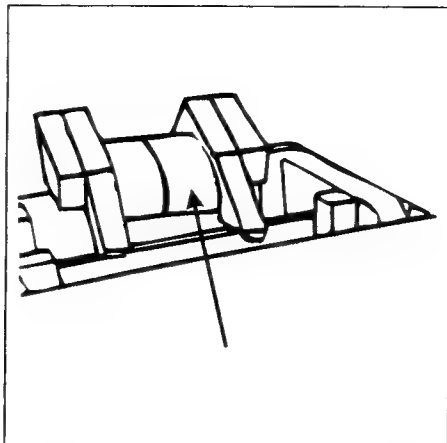

Figure 2-25. Remove Paper Tray. Step c
- c. Lift out the paper tray and remove the two attached foam pieces (Figure 2-25).